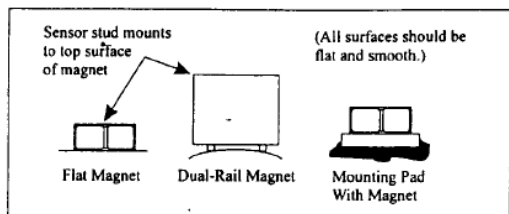

Figure 9. Magnet Types
**STEP 1:** After choosing the correct magnet type, inspect the unit, verifying that the mounting surfaces are flat and smooth. See Figure 9.